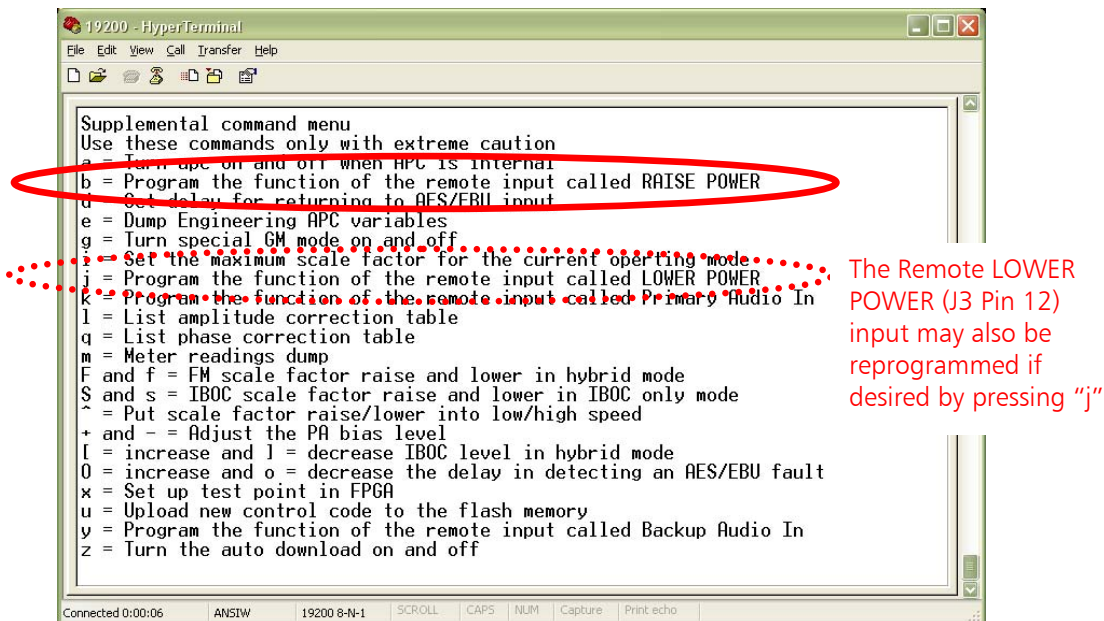

Figure 43 – HyperTerminal Supplemental Command Menu
- Step 12** – Enter **Shift+?** to bring up the Supplemental command menu list as shown in **Figure 43**. Press “b” on the keyboard to program the function of the remote input called RAISE POWER (J3 Pin 11).